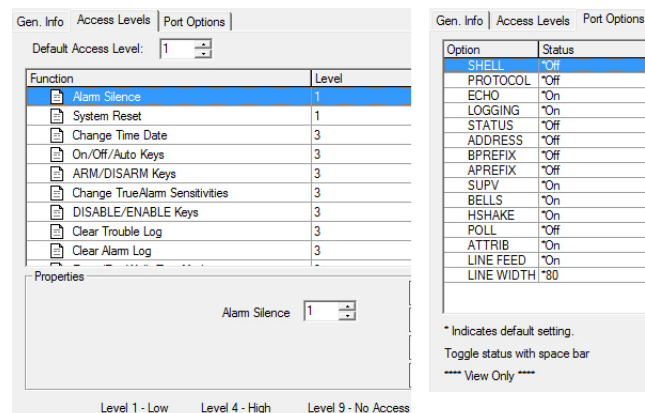

Figure 6-2. 4007 CPU Access Levels and Port Options
- Click on the Access Level tab in the RS232 Port Data Entry window (Figure 6-2). This tab allows you to set the access level for the various system operations that can be carried out via the service port. To set an access level for one of the service port operations, scroll through the list of functions and highlight the function. Use this control to associate an access level with the function. Click on **Apply** and then **OK** to confirm the selection.